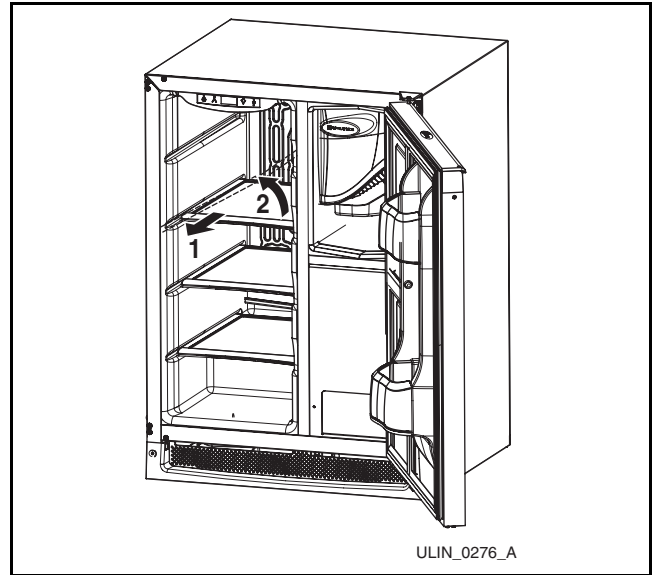

Figure 40
- Pull shelf out about 6" (**Figure 40**) until back of shelf clears the "hump" on the right-hand side.
- Tilt right-hand edge of shelf up. Remove shelf from unit by pulling out (**Figure 40**).